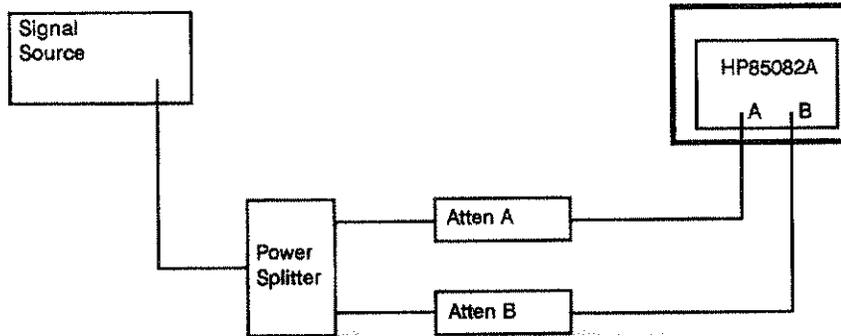

Figure 4-5. Phase Accuracy vs Level Test Setup
1. Configure the Test Equipment as shown in Figure 4-5.